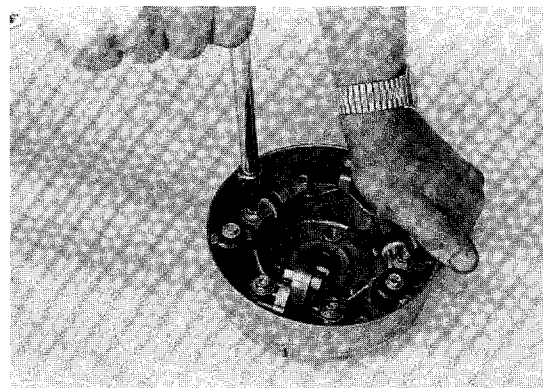

Figure 9-9
5. To remove the weights, remove the screws (13) and flat washers (14) (Figure 9-9).
6. Pull on the weights and remove the pin (22) and weights together. Remove the plastic washers (19) and the weights will slide off the pin (22). Note the orientation of the secondary (20) and primary (23) weights to one another. Also retain the wave washer (21) that is between the two weights and note its orientation.